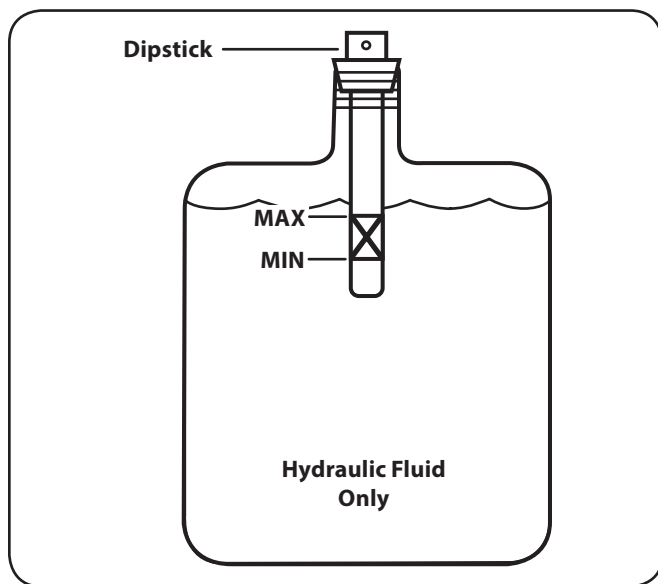

Figure 6-4
13. Refill the reservoir within range marked on the dipstick. See Figure 6-4.